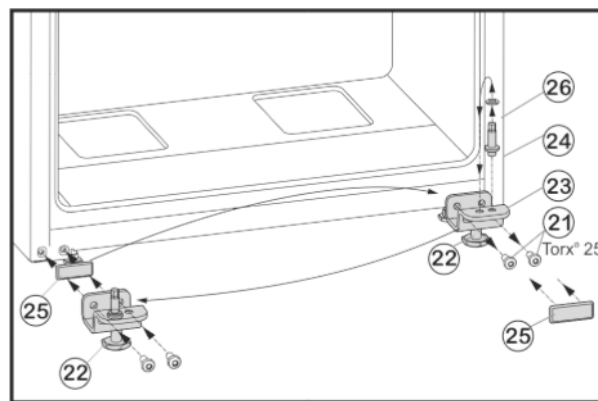

Fig. 6
- Unscrew fastening screws Fig. 6 (21).
- Remove the lower bearing block Fig. 6 (23), complete with bearing bolt Fig. 6 (24), washer Fig. 6 (26) and adjustable foot Fig. 6 (22).
- Unscrew the bearing bolt Fig. 6 (24), complete with washer Fig. 6 (26), re-locate it into the mounting hole on the opposite side of the bearing block and tighten again.
- Carefully remove the cover plate Fig. 6 (25) and re-locate it to the other side.
- Fasten the lower bearing block Fig. 6 (23), complete with bearing bolt Fig. 6 (24), washer Fig. 6 (26) and adjustable foot Fig. 6 (22) to the new hinge side, with the help of a cordless screwdriver if necessary, and **tighten (with 4 Nm)** once again.
- Lower the bottom door onto the bearing bolt Fig. 6 (24).
- ▶ Unscrew the adjustable foot *Fig. 6 (22)* on the lower bearing block *Fig. 6 (23)* until it reaches the floor.